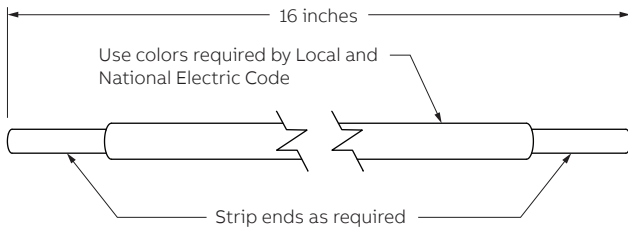

Figure 12
- 5.2.2 Cut insulated electrical conductors and ground wires (use type THHN of required gauge (AWG) and color) to 16 inches long. Strip insulation off ends of wire as required to make connections to Devices (See Figure 12).